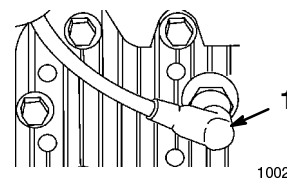

Figure 8
1. Connect the wire to the spark plug (Fig. 8).